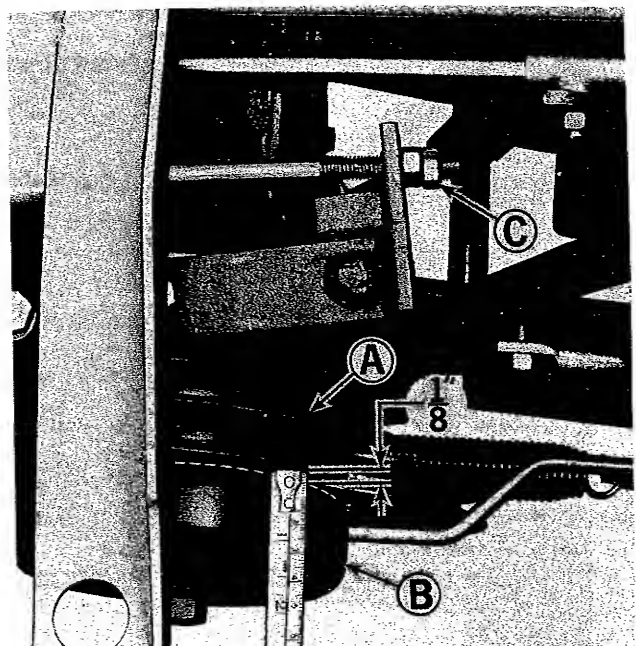

Figure 13. Power take off clutch.
See figure 13. The power take off clutch is properly adjusted when pulley (A) moves 1/8" when the power take off control lever is engaged and disengaged. If adjustment is required, proceed as follows:
3. Observe the movement of pulley (A) in relation to cup (B) as the power take off control is moved slowly from the engaged to disengaged position. If the pulley (A) moves more or less than 1/8" adjustment is required.
4. Turn the rear most nut at (C) counter-clockwise to loosen it slightly. To increase the amount pulley (A) travels turn the nuts at (C) clockwise. To decrease travel of pulley (A), turn the nuts counter-clockwise. Adjust the nuts at (C) and observe the travel of pulleys (A) as the power take off lever is engaged and disengaged. When adjustment has been made so the pulley (A) travels 1/8" tighten the rear most nut at (C) against the forward nut to lock them in place.